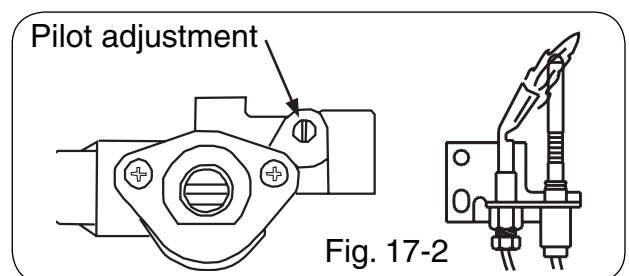

Fig. 17-2
1. Verify that the pilot is lit and burning properly (Fig. 17-2), then turn the burner control knob counterclockwise ↺ so **ON** is at the top. This opens the valve and allows gas to flow to the main burner once the ON/OFF switch is turned **ON**.
With the pilot burner lit and the control knob in the **PILOT** position (Fig. 17-2), use a narrow screwdriver and turn the pilot adjustment screw (located in the valve body) slowly clockwise ↻ to reduce the flame, or counterclockwise ↺ to increase the flame.